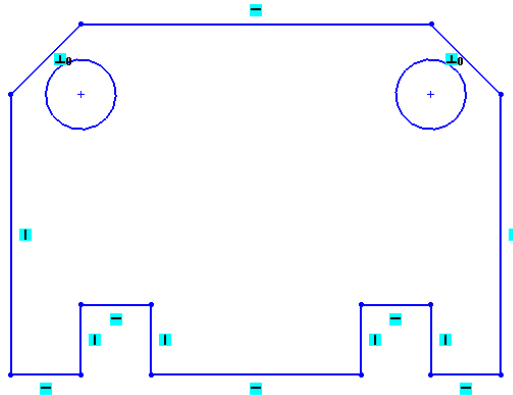

Figure 1-51 Sketch after drawing the two inner circles
8. Similarly, draw the circle on the left using the inferencing lines generating from the endpoints of the left inclined line. The sketch after drawing the two circles inside the outer loop is shown in Figure 1-51. In this figure also, the grids are turned off for clarity.